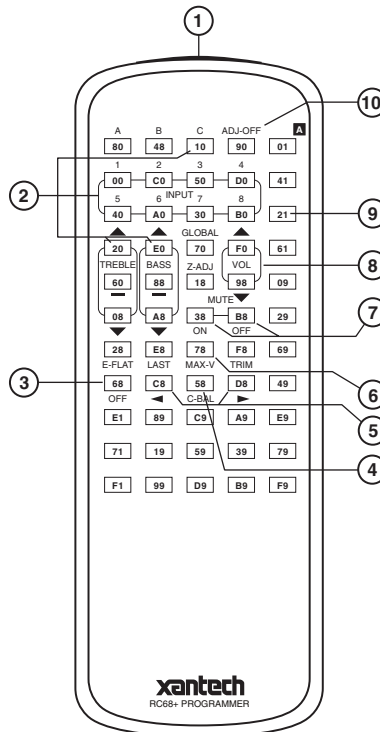

Figure 4 – The RC68+ Programmer
- After the Code Groups are set up, "teach" volume and other commands from the RC68+ Programmer (Fig. 4) into learning remote controls (and the keypads) dedicated to each room. Be sure to set the RC68+ to the specific Code Group Number that corresponds to the ones chosen for each of the amplifier pairs, during this "teaching" process.